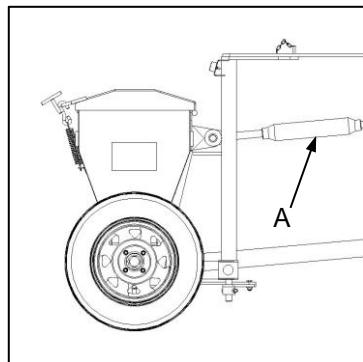

Fig. 1
- ✓ Adjust the tractor 3-point hitch top link (Fig. 1-A) such that the implement is vertical when lowered to the working position.
- ✓ Verstel die trekker se 3-punt-haak-boskakel (Fig. 1-A) só dat die implement vertikaal is wanneer dit na die werksposisie laat sak word.